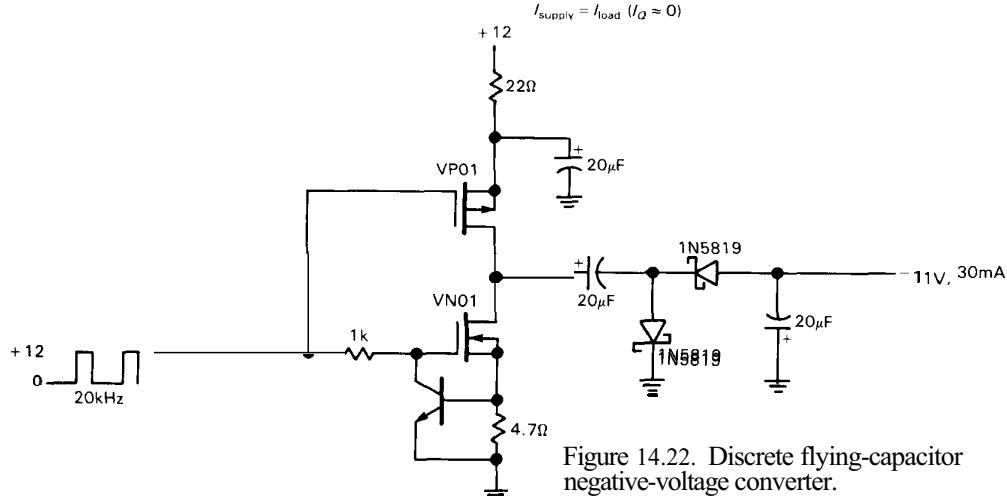

Figure 14.22. Discrete flying-capacitor negative-voltage converter.
**2.** To generate a larger negative voltage, you can use discrete MOS transistors in a flying-capacitor circuit (Fig. 14.22). The particular example shown idles at a few microamps and generates up to  $30\text{mA}$ .